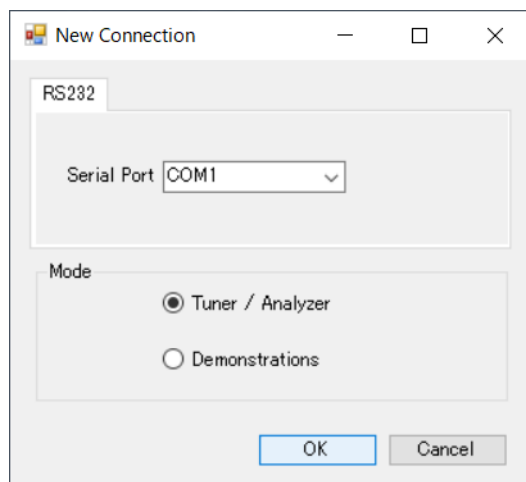

Figure 4-1 "New Connection" Dialog
- (6) Double-click the unzipped executable file (RZT2H_Motion_Control_Utility.exe) to launch the RZ/T2H Motion Control Utility.
- (7) Specify the COM port number to connect using the "Serial Port" combo box in the "New Connection" dialog (Figure 4-1) and press the "OK" button to establish communication.